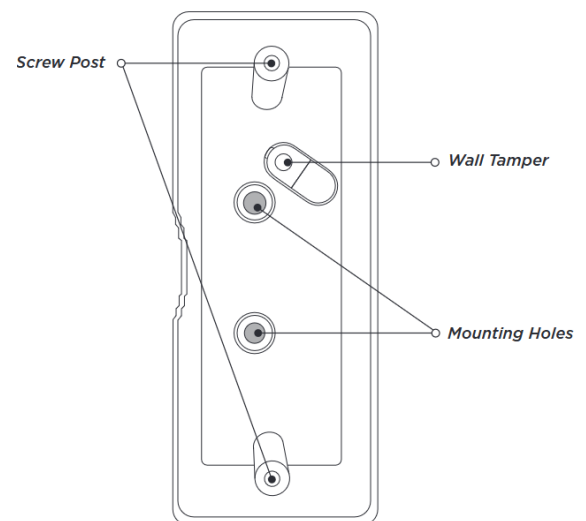

Figure 2: Base Housing Installation
3. Use the two supplied Phillips mounting screws to mount the base. Place another screw in the tamper hole to mount it against the wall. See Figures 2 and 3.